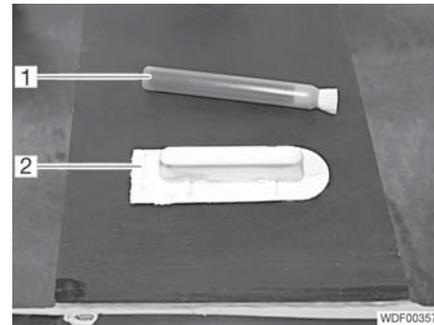

Fig. 377 Primer and activator
- Touch up minor damage on the door's black UV protective coating with the primer (Fig. 377,1) and allow it to dry thoroughly.
- Break the small glass tube inside the activator (Fig. 377,2) to activate the activator.